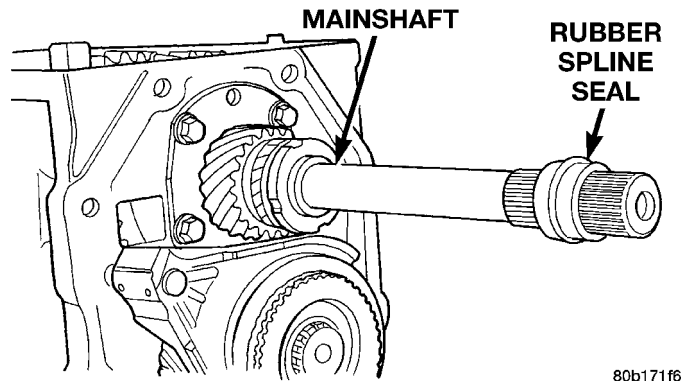

FIGURE 5 - Mainshaft Spline Seal
- 26. If equipped, remove rubber spline seal from end of mainshaft (Figure 5) and discard. The seal is mainly used to prevent lubricant loss during shipping and does not have to be replaced.